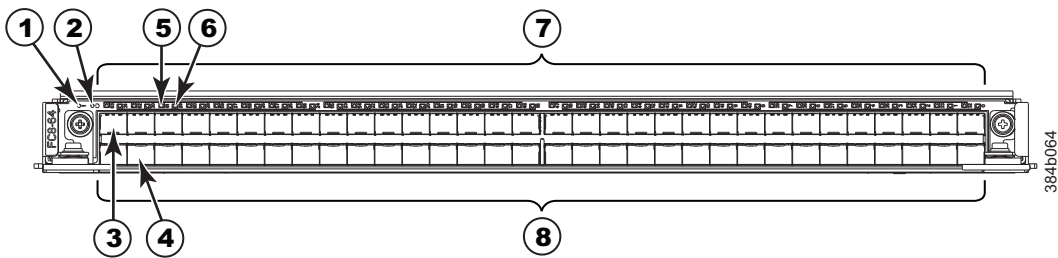

Figure 64. FC8-64 port blade
- Figure 64 on page 171 shows an FC8-64 port blade